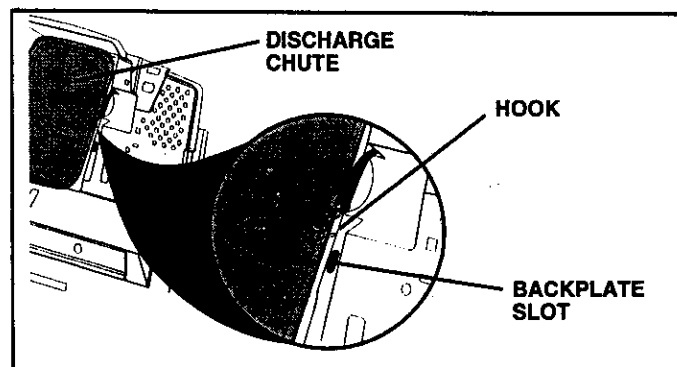

FIG. 19B
**NOTE:** The strap hook must go through the discharge chute only. Do not allow the hook to enter the slot in the tractor back plate. This will allow the discharge chute to float with the mower deck when mowing on uneven terrain (See Fig. 19B).
**NOTE:** The strap hook must go through the discharge chute only. Do not allow the hook to enter the slot in the tractor back plate. This will allow the discharge chute to float with the mower deck when mowing on uneven terrain (See fig. 19B).
- Install the discharge deflector to the backplate by screwing the four (4) wing screws into the threaded inserts located in the backplate.